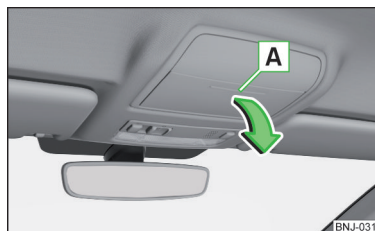

Fig. 87
- To **open**, press on the outer edge of the glasses compartment in area . The compartment folds in the direction of the arrow » Fig. 87.